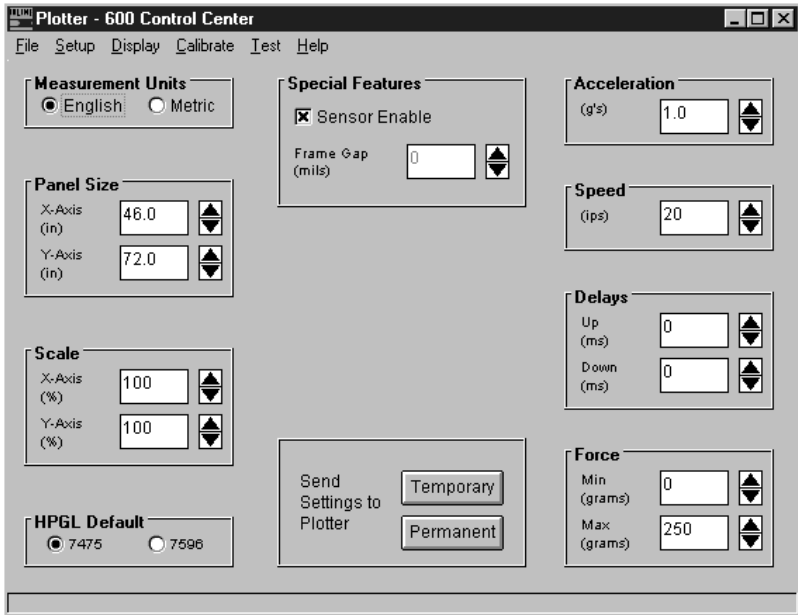

Figure 24. Control Center main screen (Ioline model 600 screen shown).
6. If the Control Center finds the plotter the Control Center main screen will appear. See *Figure 24*.